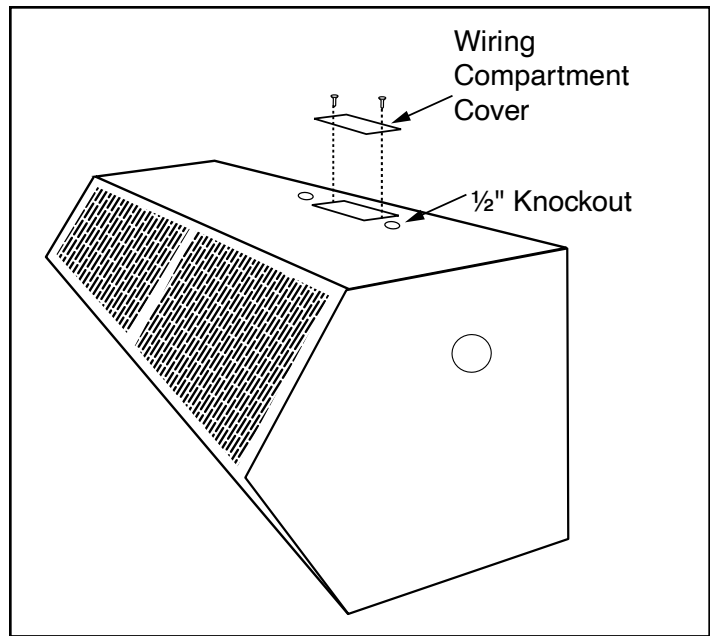

FIGURE 6 - Electrical Connections
- C. Remove the wiring tray cover; on air curtains that are comprised of modules, remove the wiring tray cover that is located closest to the electrical rating nameplate (if it has not already been done). **See FIGURE 6.**